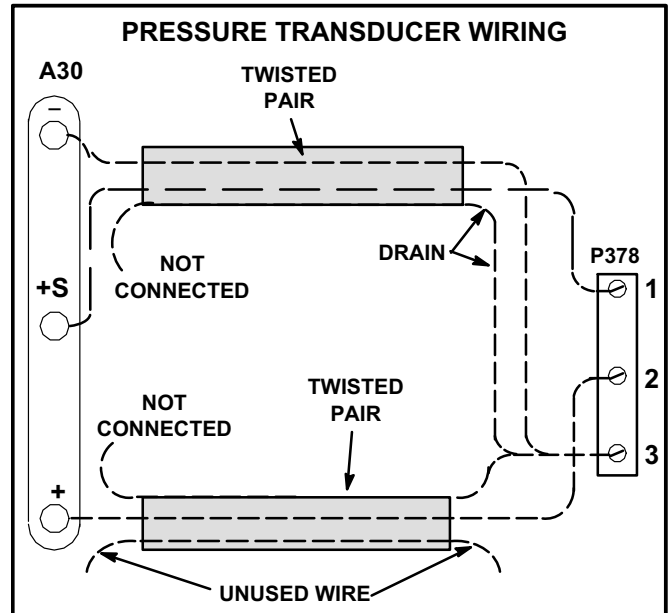

FIGURE 31
- 2- Two twisted pairs of shielded cable must be used to connect the pressure transducer. See figure 31. J/P378 connector is hanging in the control box.